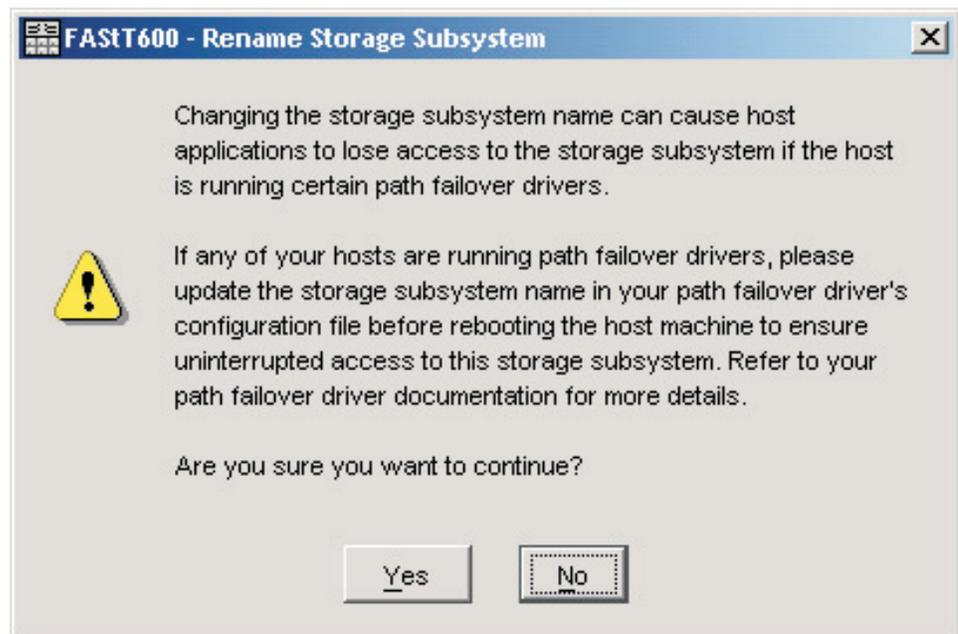

Figure 25. Rename Storage Subsystem window
3. Click **Storage Subsystem** → **Rename**. The Rename Storage Subsystem window opens as shown in Figure 25.